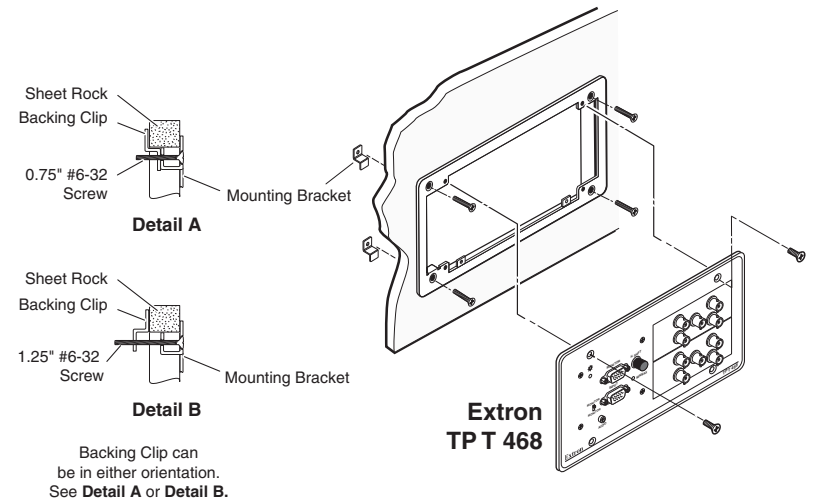

Figure 2-8 — Attaching a mud ring to a wall
7. If you are using a mud ring, follow the directions, if any, that came with the mud ring to attach the clips that fasten it to the wall or furniture (figure 2-8).